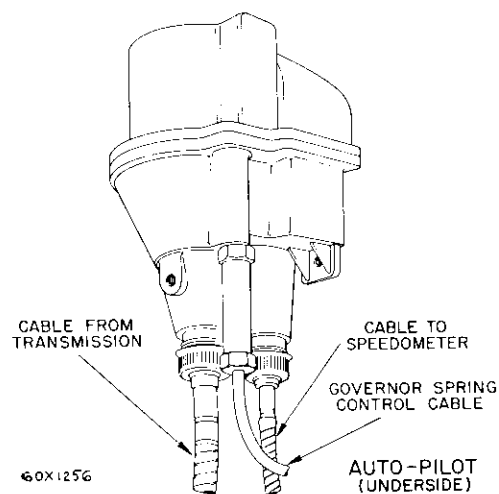

Fig. 34—Auto-Pilot Drive Cables
The Auto-Pilot is governed by car speed and is driven by a flexible cable from the transmission speedometer pinion (Fig. 34) to the input shaft of the Auto-Pilot. This cable drives a spring loaded governor in the Auto-Pilot assembly which in turn
- (1) Turn the selector knob counterclockwise to the low speed position.
- (2) Hold the dust shield firmly to avoid rotation of the shield.
- (3) Unscrew control cable clamp nut and allow nut to slide down control cable (Fig. 34).
- (4) Pull control cable out of dust shield until ferrule at end of cable is free from bottom of dust